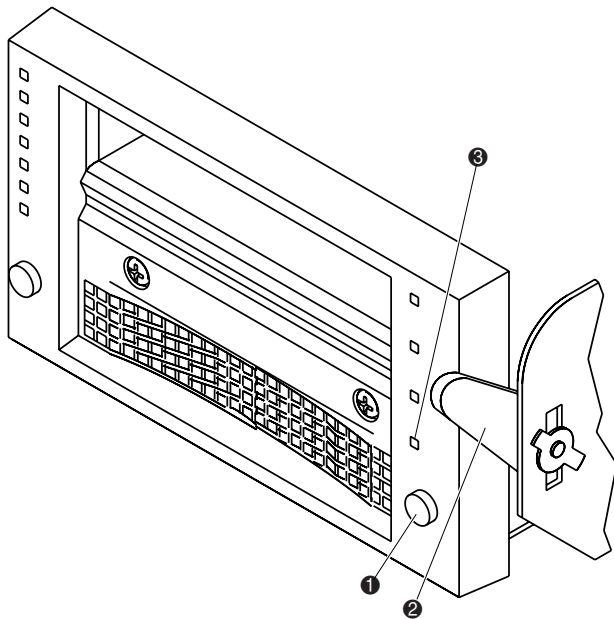

Figure 2-9. DLT tape drive front bezel
2. Press the **Unload** button on the tape drive (❶ Figure 2-9). When you press the **Unload** button, the tape cartridge rewinds. This might take between 10 to 120 seconds. When the rewind process completes, the Operate Handle indicator comes on.
3. When the Operate Handle indicator (❸ Figure 2-9) comes on, with one hand, place your thumb approximately one-half inch from the tape and then slowly raise the insert/release handle (❷ Figure 2-9) to eject the tape cartridge.